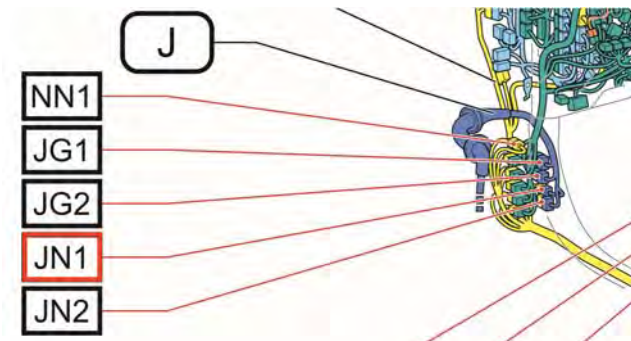

Figure 32
- (a) Disconnect connector JN1 (BLACK 20-pin). Figure 32.